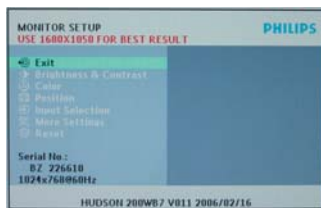

Fig. 24
- Press "OK" button, wait until the OSD menu with Characters "HUDSON 200WB7 V011 2006/02/16" (below OSD menu) come on the Screen of the monitor. as shown in Fig24.